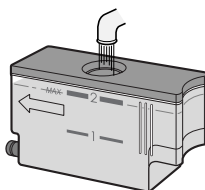

Figure 2
3. Fill the water tank with **room temperature water suitable for drinking (filtered) through the lid to the 2 mark (MAX mark) each time you begin to cook.** (Figure 2) Do not fill the water tank over the 2 mark (MAX mark).